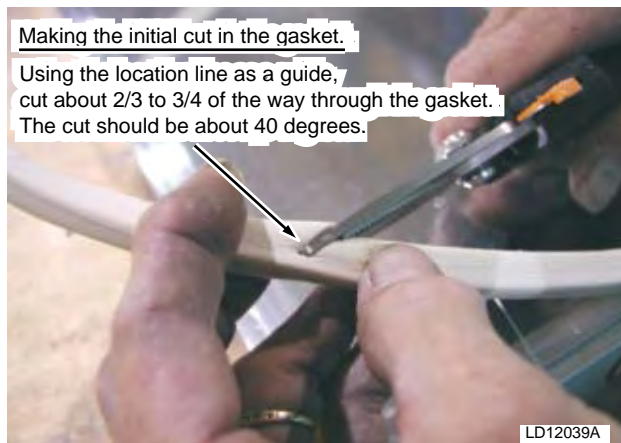

FIG. 5-29 – MAKING FIRST CUT ON GASKET
- The first cut is about 2/3 to 3/4 of the way through the gasket. The cut should be about 40 degrees (see Fig. 5-29).